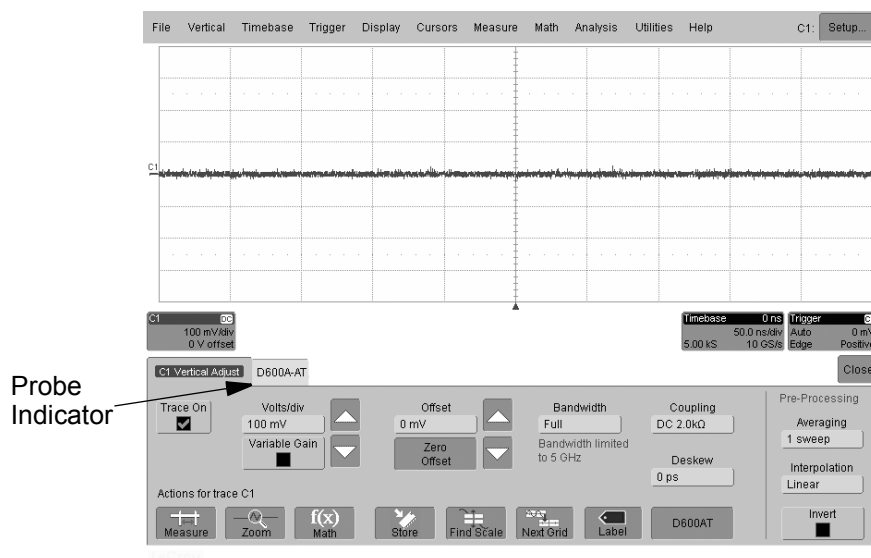

Figure 7-1. Vertical Channel set-up.
4. Touch the C1 (channel to which the probe is connected) frame on the touch screen. Verify that probe model, in this case 'D600A-AT', is shown on the screen menu. Figure 7-1.